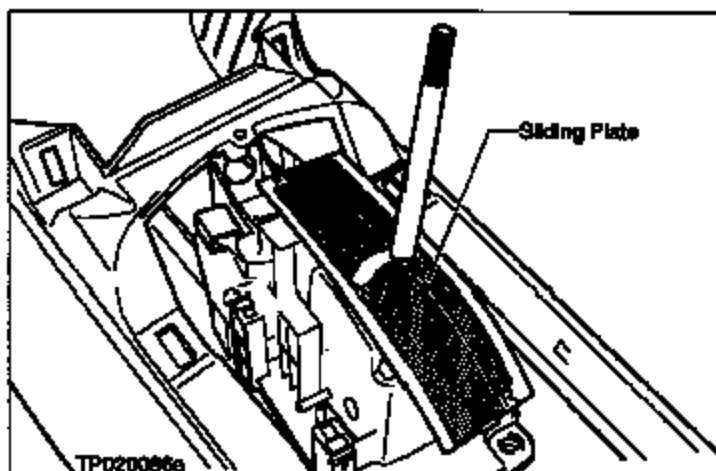

Figure 1
- Replace the A/T Indicator assembly Sliding Plate (see Figure 1).